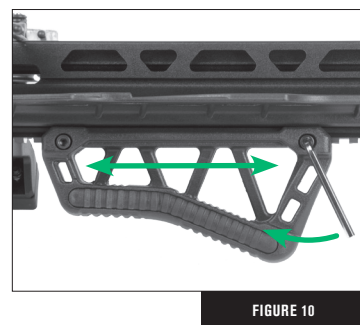

FIGURE 10
**To adjust the foregrip** (Part 15), loosen the two foregrip screws found on the left side of the crossbow, as seen in Figure 10. Once loose, you can slide the foregrip forward or backward along the bottom picatinny rail. When finished, tighten the screws to lock it into place.